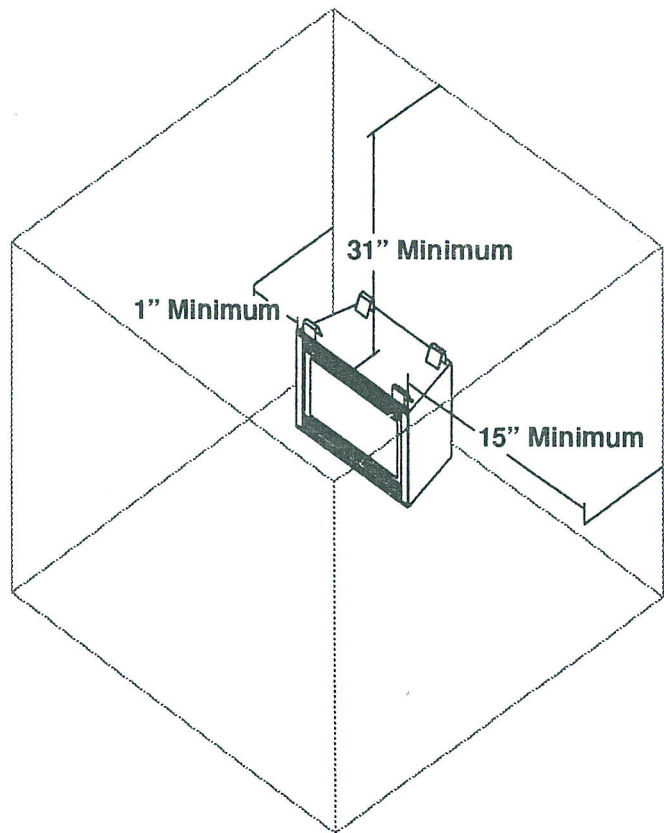

Figure 3: Wall & Ceiling Clearances
1. Ensure that minimum clearances shown in Figures 3 and 4 are maintained. Left and right clearances are determined when facing the front of the appliance.
**SIDEWALL CLEARANCES:** The clearance from the front edge of the appliance to any combustible wall should not be less than 1" on the left side and 15" on the right side, or not less than 1" on the right side and 15" on the left side. Refer to Figure 3.
**CEILING CLEARANCE:** The ceiling must be at least 31" from the top of the front of the fireplace (65.5" from the bottom of the appliance). Refer to Figure 3